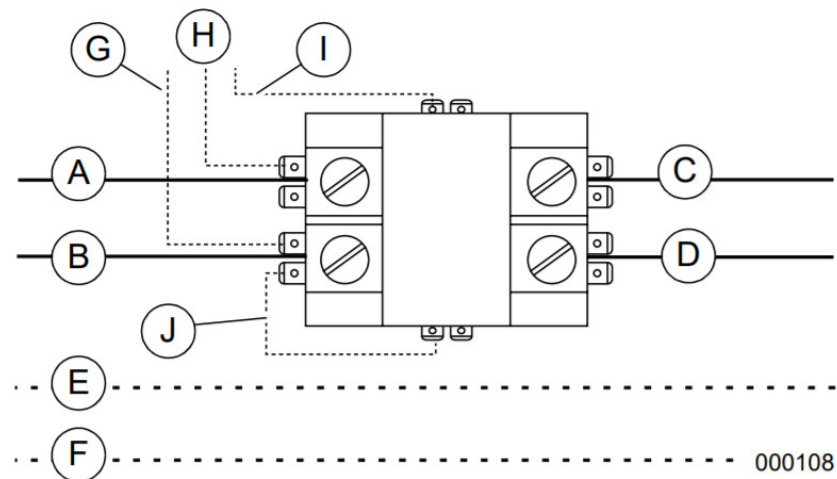

Figure 3-3. Wiring Diagram
- See Figure 3-3. Connect line supply wiring (A, B) to line side of SMM contactor field terminals. Tighten field terminals to 25 in-lbs (2.8 Nm).